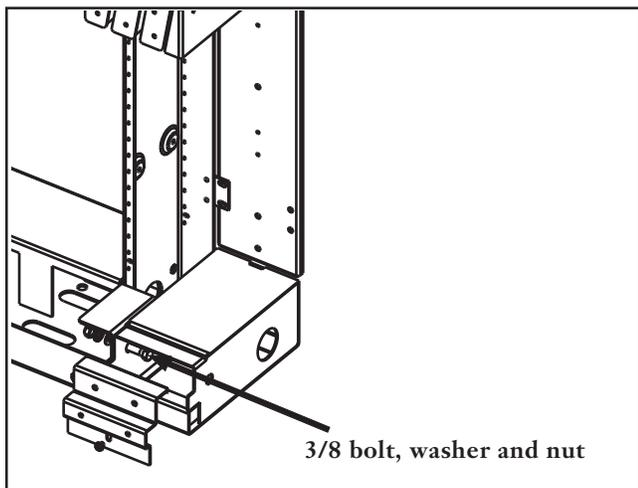

Figure 8
5.2 Remove front cover from base filler and equipment rack base. Attach base filler to equipment rack base with 3/8-inch hardware provided. Reattach covers (Figure 8).